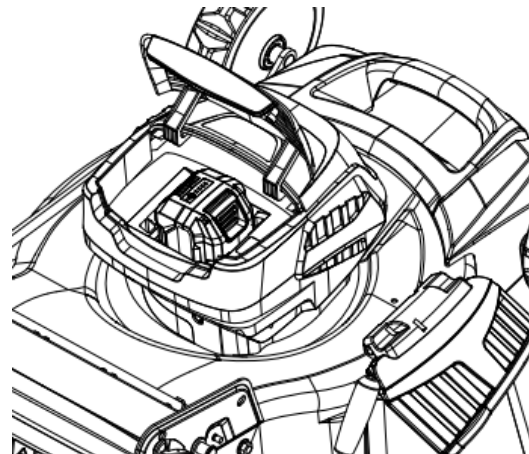

Fig.5B
2. Insert the battery pack into the battery holder. (Fig. 5B)